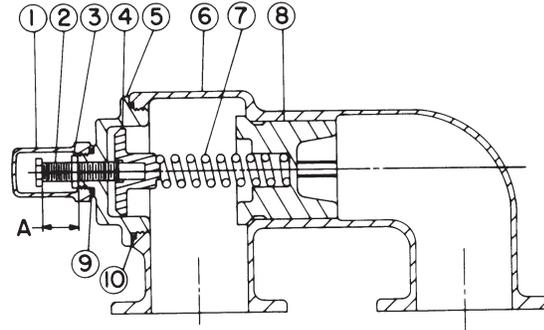

FIGURE 14
2. Measure and record length of extension of adjusting screw. Refer to “A” on Figure 14.